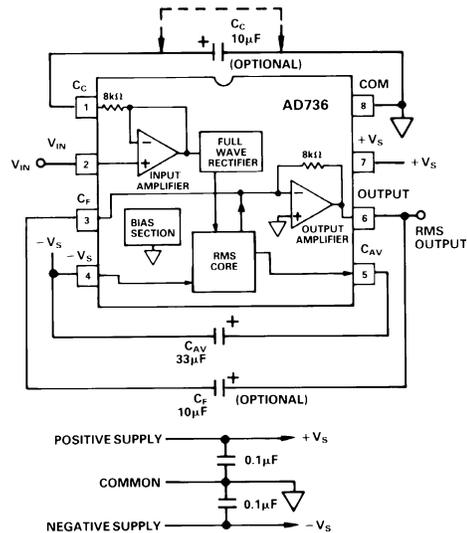

Figure 16. AD736 True RMS Circuit
- 1Accuracy is specified with the AD736 connected as shown in Figure 16 with capacitor CC.
As shown by Figure 16, the AD736 has five functional subsec-